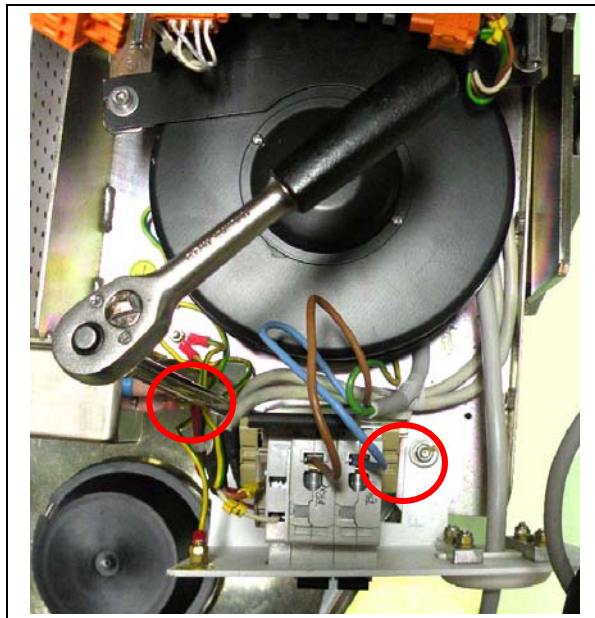

Figure 8
- (6) Remove the 2 fixing screws at both sides of the line circuit breaker block and remove the metal plate. See circle marks in figure 8.